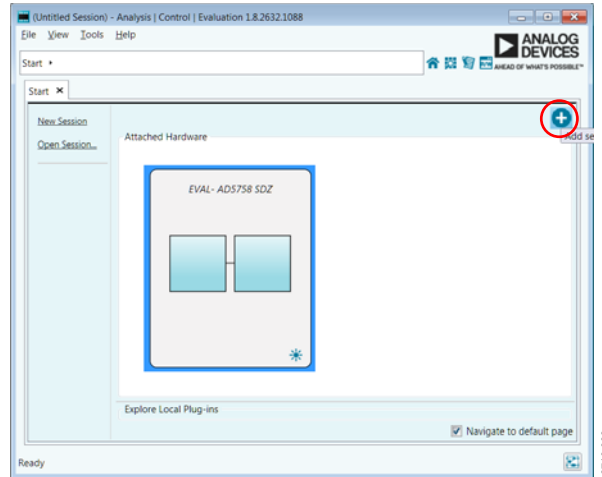
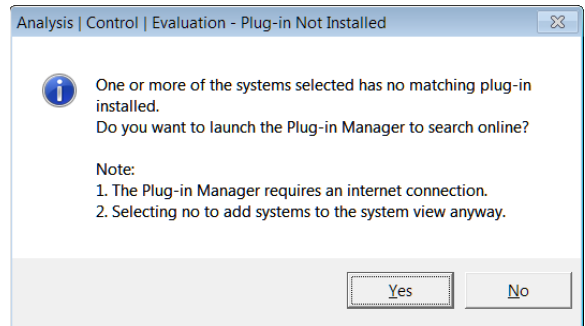
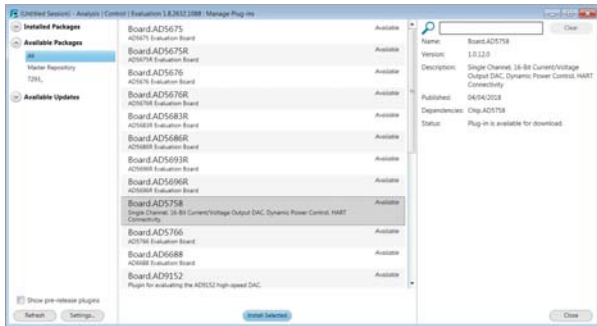
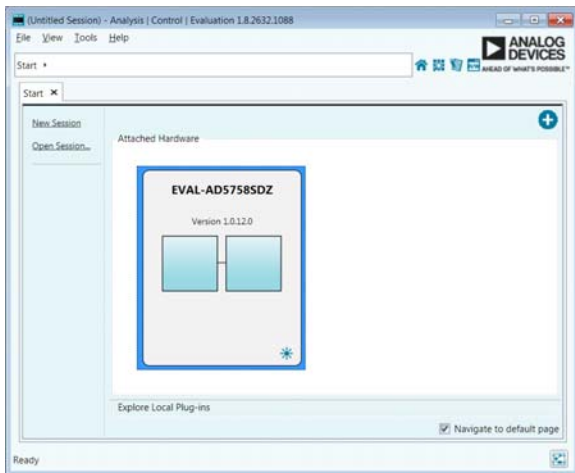

Figure 3. EVAL-AD5758SDZ Plug-In Not Installed
Figure 4. Installing the Plug-In Pop-Up Window
Figure 5. Plug-In Manager Window
Figure 6. Attached Hardware Section when the EVAL-AD5758SDZ is Connected
5. When setting up the evaluation board for the first time, the EVAL-AD5758SDZ plug-in may need to be installed. If the plug-in appears as shown in Figure 6, then go to Step 7. If the plug-in appears as shown in Figure 3, then click on the button circled in red in Figure 3. After clicking this button, the pop-up window shown in Figure 4 appears. Click yes.
6. A new window appears as shown in Figure 5. Find the **Board.AD5758** plug-in and click the **Install Selected** button. The EVAL-AD5758SDZ plug-in is now installed and is displayed as shown in Figure 6.